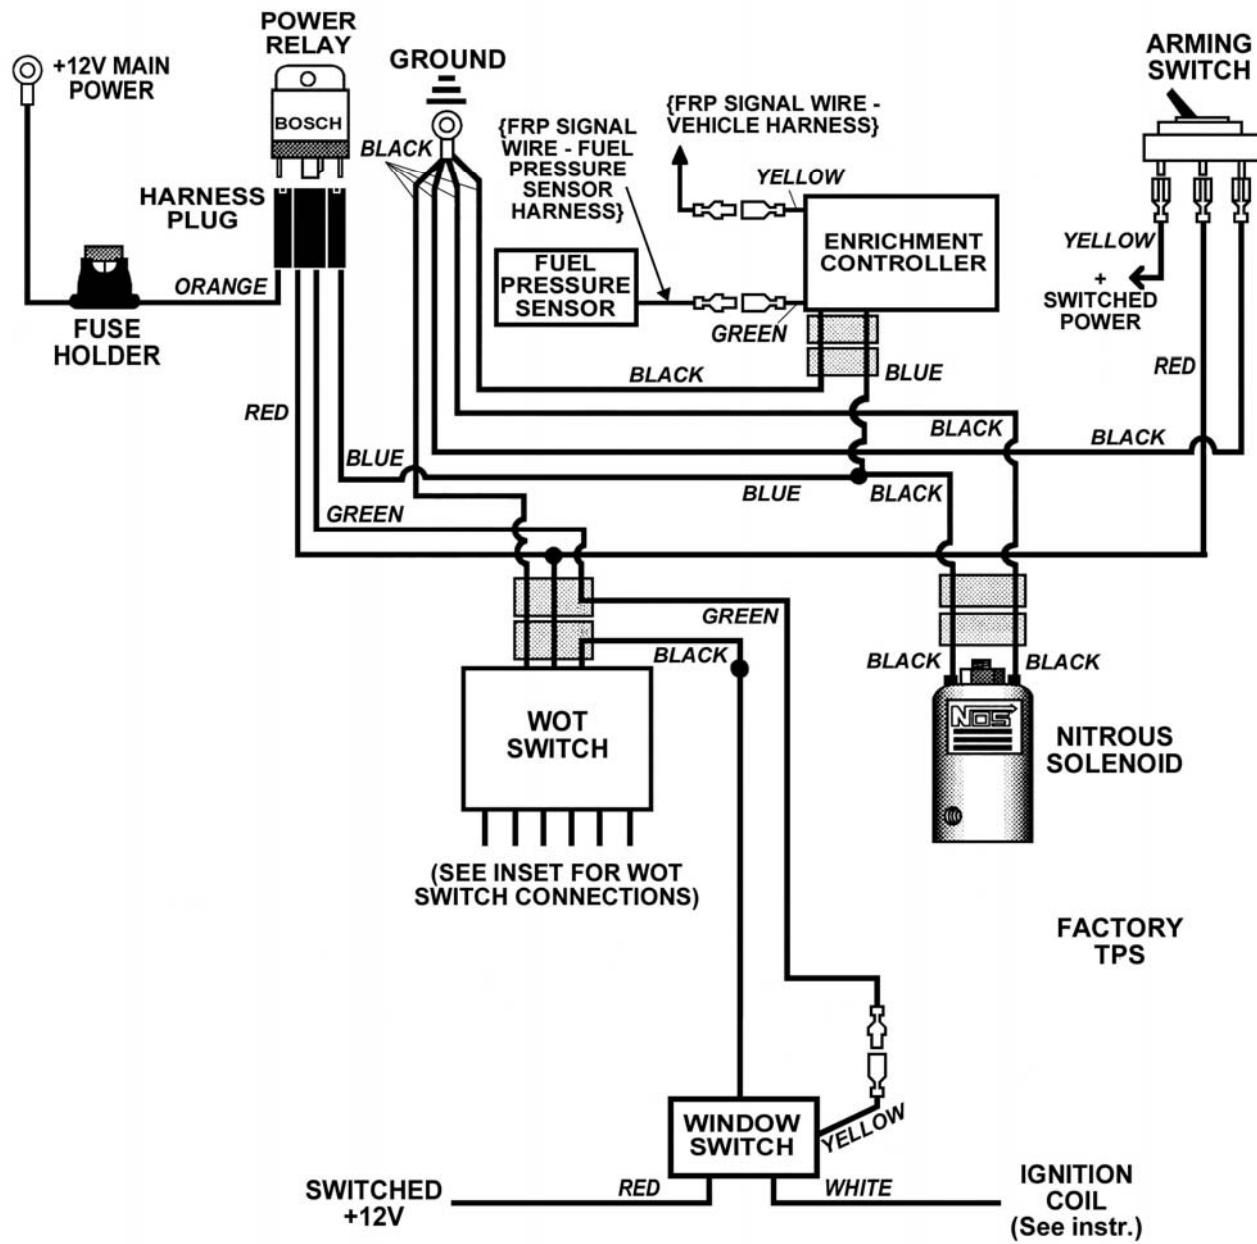
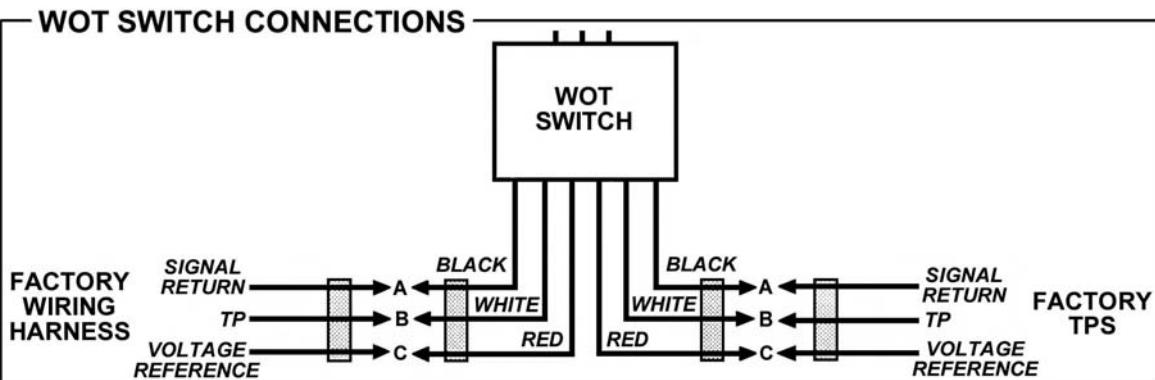
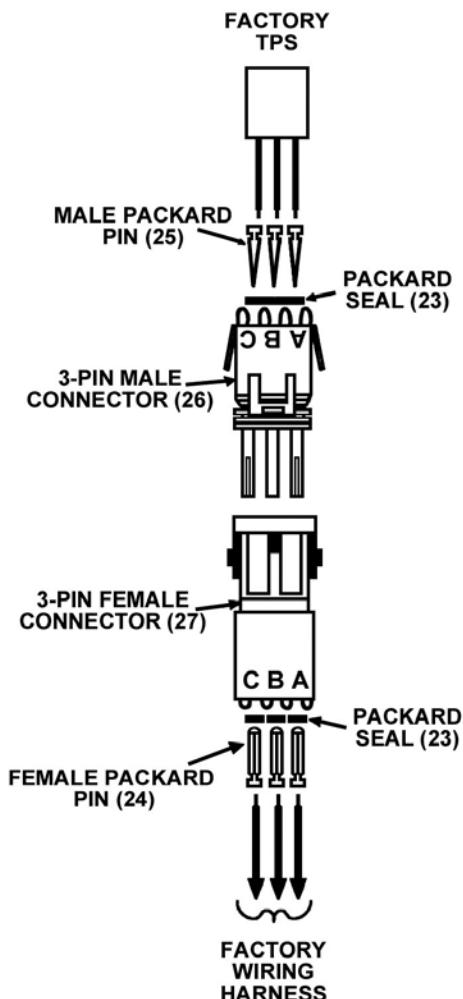

Figure 7 Wiring Schematic
Fig 7A Wide-Open Throttle Switch Wiring Harness Layout
Figure 8 Packard Connection Exploded View
Use the following procedures for the electrical system installation. See Figure 7 for the electrical wiring schematic.
3. Install the 3-pin Female Connector (27) with the Female Packard Pins (24) and the Packard Seals (23) on the TPS lead from the factory wiring harness. See Figure 7A for wiring definition and Figure 8 for Packard Connection Exploded View. It is recommended to use Packard Connector tool (PN 12814254) to crimp the connectors. If this tool is not available, it is recommended to carefully crimp the connector pins on with pliers, and then solder the wire to the pin.
4. Install the 3-pin Male Connector (26), Male Packard Pins (25), and the Packard Seals (23) on the open end of the factory TPS plug lead. See Figure 7 for wiring codes and Figure 8 for Packard Connection Exploded View.
5. Connect the male plug from the WOT switch (18) to the female plug on the factory wiring harness.
6. Connect the female plug from the WOT switch (18) to the male plug on the factory TPS.
1. A window switch (30) is included with this system. A window switch allows for nitrous to only be activated in a particular RPM range. This provides two very important safety features. It allows for the nitrous to only be activated at a safe RPM level. If nitrous is activated at a very low rpm, possible engine damage can result. If the rev limiter is hit at high RPM, the nitrous will have been shut off. Hitting a rev limiter with nitrous activated can cause severe engine damage.
2. The window switch needs to be wired properly. Follow the schematic and directions in Figures 7 & 11.